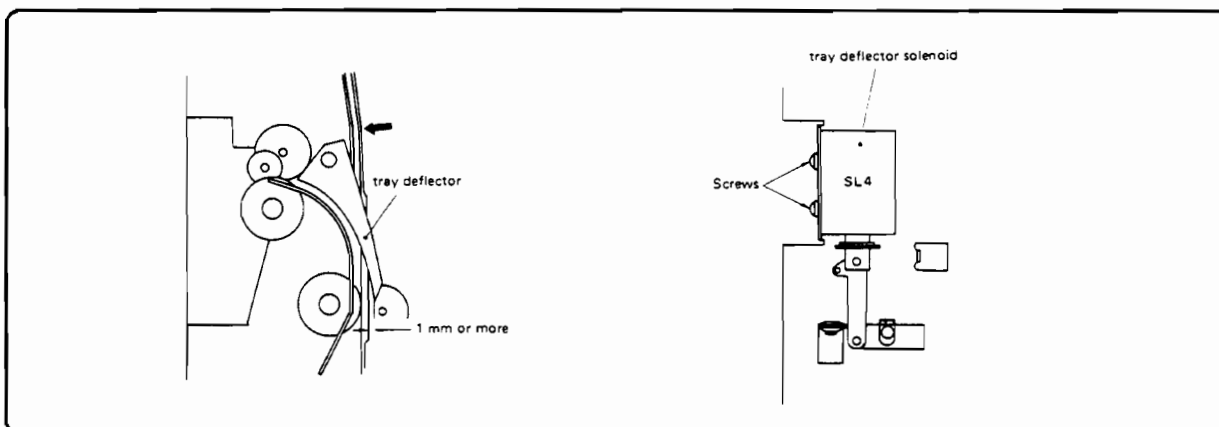

Figure 7-46. Error Tray Front/Rear View
1. While pushing the guide plate in the direction of the arrow indicated in Figure 7-46, position the solenoid so that the distance between the front end of the error tray deflector and the guide plate is 1 mm or more when the solenoid plunger is pushed in with a finger.